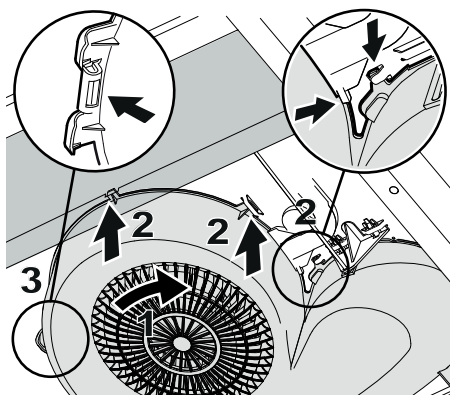

Fig. 8
Make sure all the snap retainers fit onto the cooker hood lugs. Twist the blower (1) into the lugs (2). Press the blower's snap retainer back into the lug (3). Fig. 8